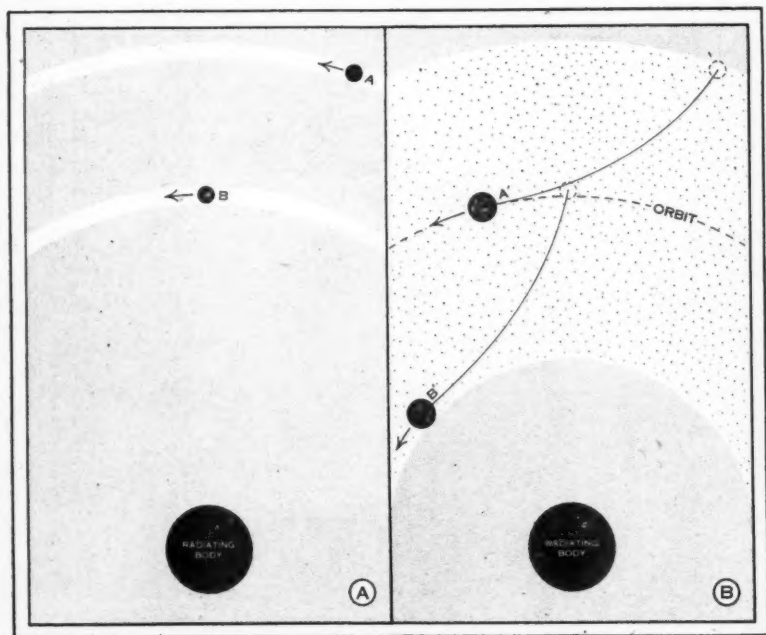

Fig. 7. Two stages in the process of planetary accretion.
Fig. 7. Here, during the earlier stages in the development of a planetary system (A), two large bodies, A, and B, and myriad smaller bodies, are shown in orbits about the primary, a radiating body, such as the Sun.
These, by collision and combination, will grow and move inward, toward the primary, attaining, after many collisions, sizes and orbits designated by A' and B' (Fig. 7, B).
When body A' moves inward and reaches the relatively clear space of the initial orbit of body B, the number of collisions will be markedly reduced, and A' will tend to occupy that orbit permanently. Body B' (Fig. 7, B) will continue to grow by accretion, and to move inward, until it, in turn, attains a stable orbit in a relatively clear zone (not shown), or, coming within the Roche Limit, is torn apart by tidal stresses.